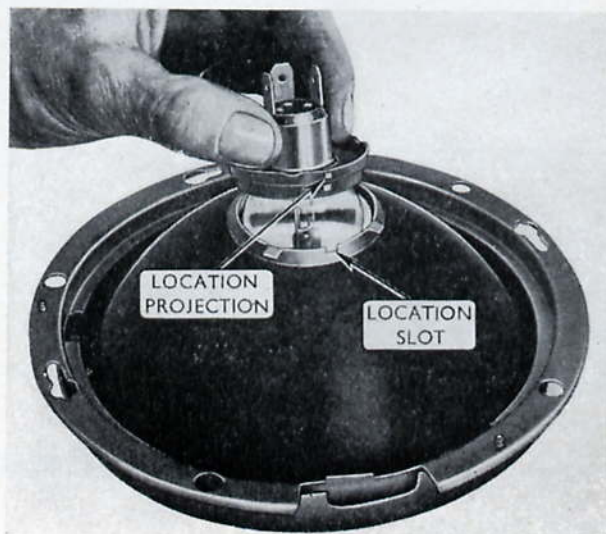

Fig. S.6. Installing a bulb in a Unified European head lamp
- (b) Install the new bulb which is located by a projection on the flange and a slot in the light unit flange (Fig. S.6).